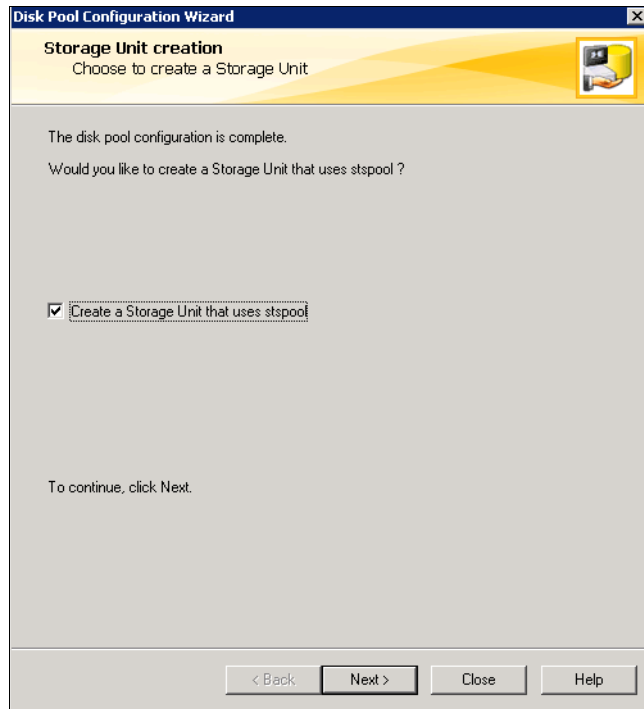

Figure 9-30 Continuing to the creation of the storage unit.
7. To go on to the next task, the creation of the storage unit, click **Next** (Figure 9-30).